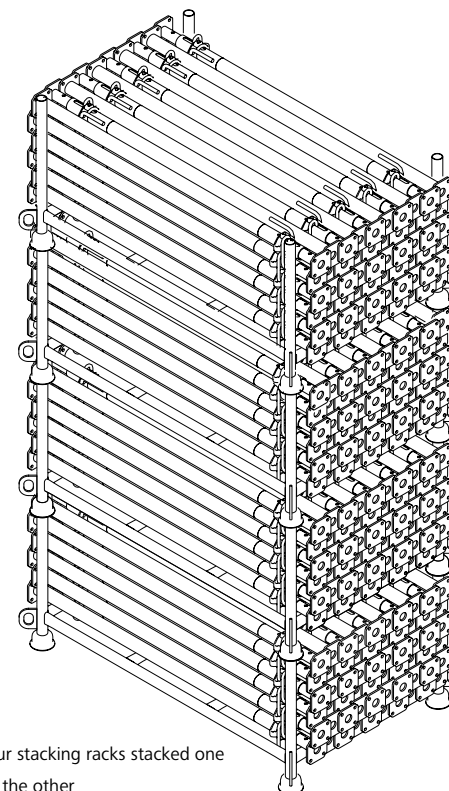

Fig. 2: Four stacking racks stacked one on top of the other
The stacking rack is used to store and transport props, formwork girders H20, etc. (Figures 3 to 6). During transport, the load must be additionally secured by a lashing strap or similar device. The stacking rack is painted and up to four stacking racks can be stacked one on top of the other (Fig. 2). The stacking rack can be moved by crane (Fig. 9), forklift truck (Fig 10), lift truck or on swivel-type castors 100 (ref. no. 29-305-95, Fig. 11).
- A maximum of four stacking racks are to be stacked one on top of the other for storage purposes (Fig. 2, stability).